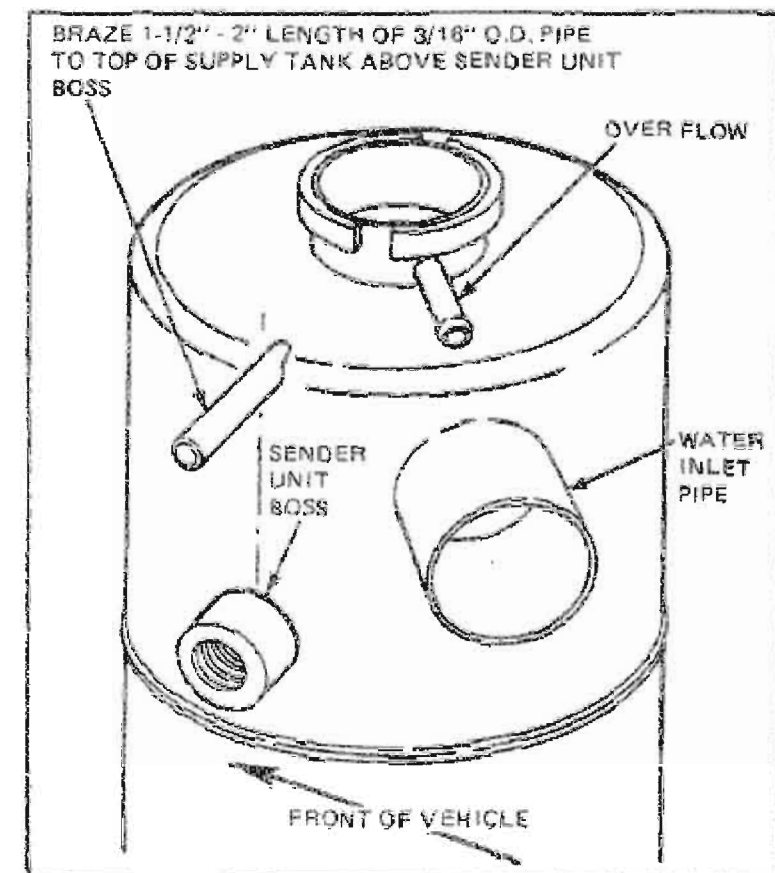

Fig. 4—Article 61
6. Remove the supply tank and braze a short (1-1/2" - 2") length of 3/16" O.D. pipe, such as brake line, to the very top of the supply tank next to the water inlet pipe and above the sender unit boss (Fig. 4).